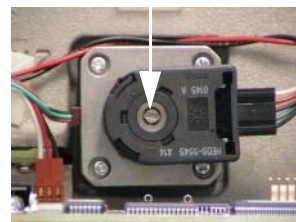

Figure 2-20 Filter Position Screw
- 13.) Using the dry lint free alcohol pads from step 3, clean the Bowtie Filter assembly positioning screw. See Figure 2-20.